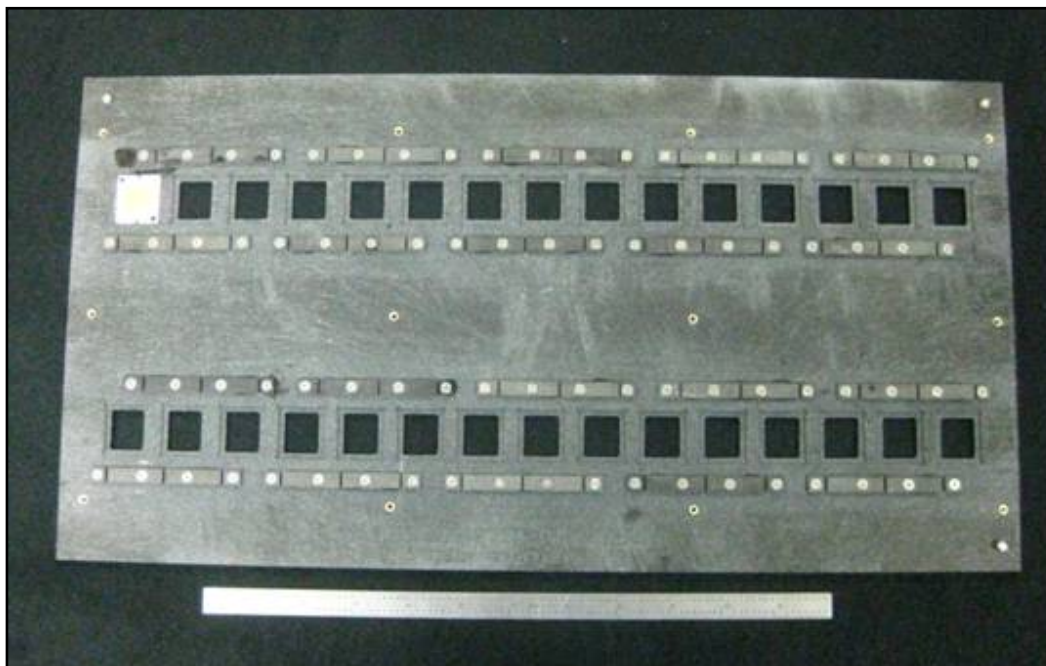

Figure 8: Solder reflow fixture bottom plate for Rectangular LED Arrays
1. The LED Arrays (with solder paste pre-deposited on the solder pads) are loaded onto the bottom fixture plate (Figure 8).